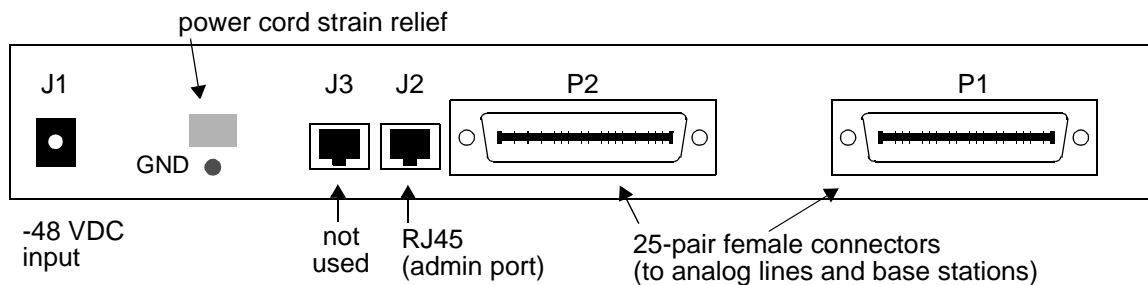

Figure 3-3. CTPhone Controller (Rear View)
- 8 Connect one of the 25-pair cables to connector P1 (Figure 3-3) on the CTPhone Controller. Punch down the cable on connecting block P1 on the MDF.
- 9 Connect the other 25-pair cable to connector P2 (Figure 3-3) on the CTPhone Controller. Punch down the cable on connecting block P2 on the MDF.
The barrel jack connects to the CTPhone Controller at J1 (see Figure 3-3 on page 3-7). Battery source requirements are -44 to -56 VDC @2 Amps. An inline fuse (rated 3 Amps/ @250 V Slow-Blow) must be installed as close as possible to the battery source on the minus potential side.
To prevent accidental removal of the power cord connected to J1 on the CTPhone Controller, the power cord should be attached by ty-rap to the power strain relief above the ground screw on the CTPhone Controller (see Figure 3-3 on page 3-7).